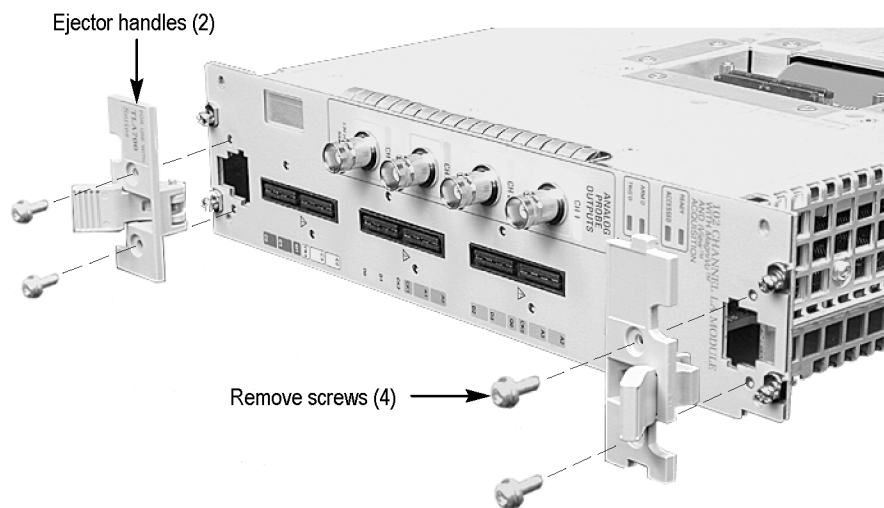

Figure 11: Injector/ejector handle replacement
1. Place the module on the right side. (See Figure 11.)
Installation Use the following procedure to install the injector/ejector handles by referring the figure. (See Figure 11.)